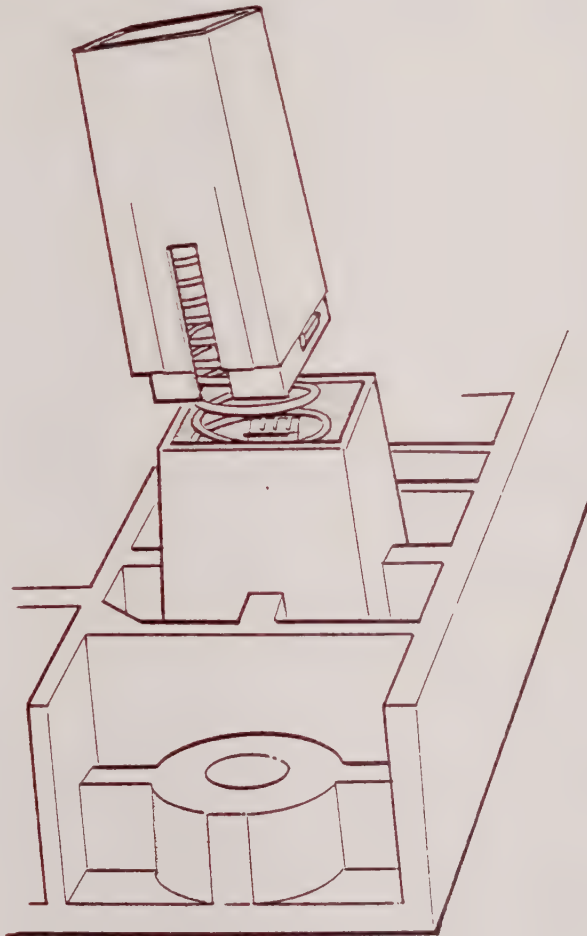

Figure 5-6. Replacing The Plunger
13. Replace the plunger, making sure that the bar is parallel with the contact opening. Work the plunger down slowly, separating the contacts with the crossbar of the plunger (see figure 5-6).